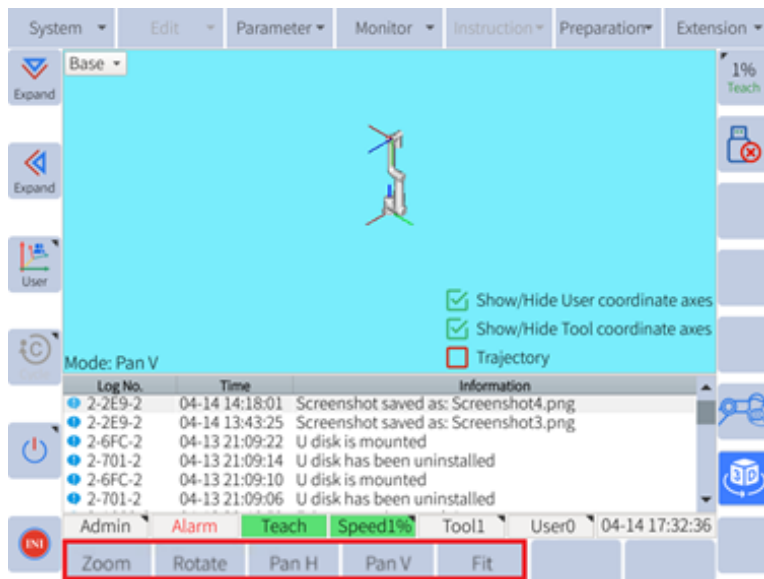

Figure 6-23: Buttons at the bottom
2.2.1 Buttons at the bottom, as shown in **Figure 6-23**: